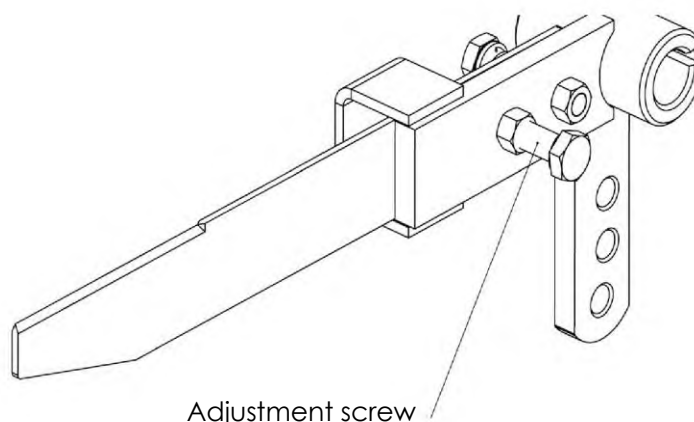

Figure 41. Adjusting the bind counter - the adjusting screw
You can set the length of the bale binding with the adjusting screw (Figure 41). Tighten the adjusting screw to move the measurement blade (13) further from the belt wheel (12), and decrease the binding length, as shown in Figure 41. Determine the number of binding turns according to the harvest condition. The manufacturer's recommended number of binding turns is 1.5 to 2.5 bale turns.